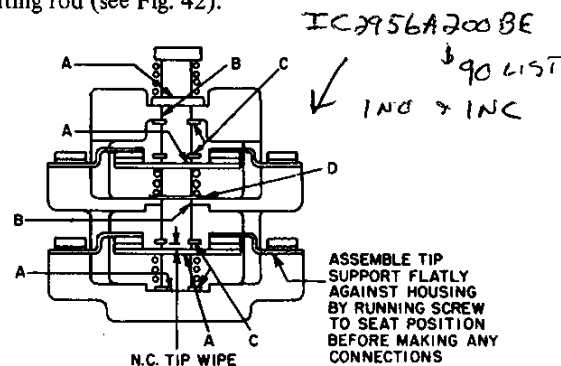

Fig. 42. Interlock block with normally closed contacts in unoperated position
This interlock has been designed so that the movable or stationary contacts can be replaced or rearranged to change an individual assembly to give a different number of normally open or closed contacts. When these operations are performed, the parts must be reassembled in accordance with Fig. 42, 43 and 44, the previous instructions and the following requirements.
1. The spring ends must not protrude into the holes (A), slots (B), or keys (C), which serve as guides for the operating rod (see Fig. 42).
3. Contact blocks with two normally closed circuits require a spring spacer (D) as shown in Fig. 42 to assure that the center spring is properly in place.
4. When circuits are rearranged to obtain one normally open and one normally closed circuit, the normally closed circuit must be located at the bottom as shown in Fig. 42.
3. When the wipe is reduced to one half of the minimum values shown in the general section of "Electrical Interlocks," the contact assemblies should be replaced to obtain proper pressures to allow the interlock to operate satisfactorily. The wipe is the compression in inches of movable-contact spring between the energized and de-energized positions of contactor (see Fig. 42 and 44).